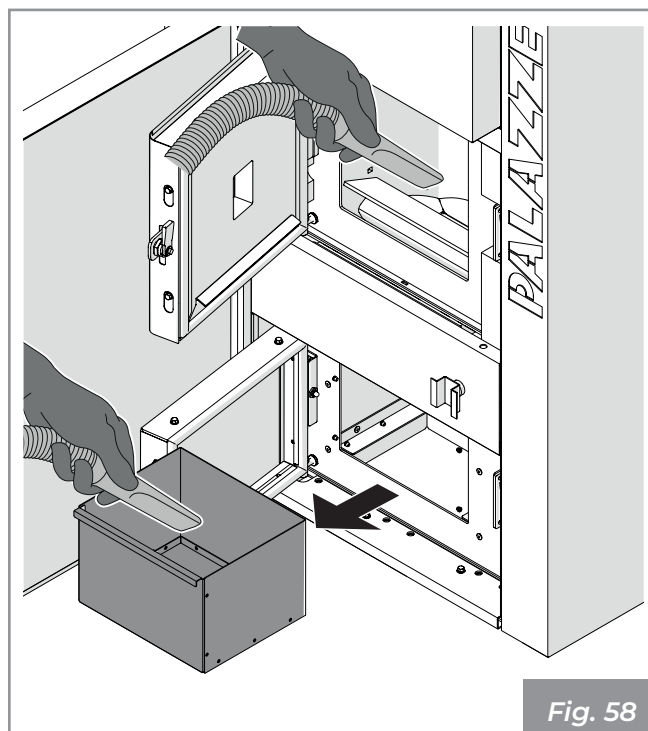

Fig. 58
- Vacuum the ash accumulated in the burn pot (Fig. 58).
- Remove the ash drawer and empty it, making sure to remove any residue in the compartment where it is contained (Fig. 58).